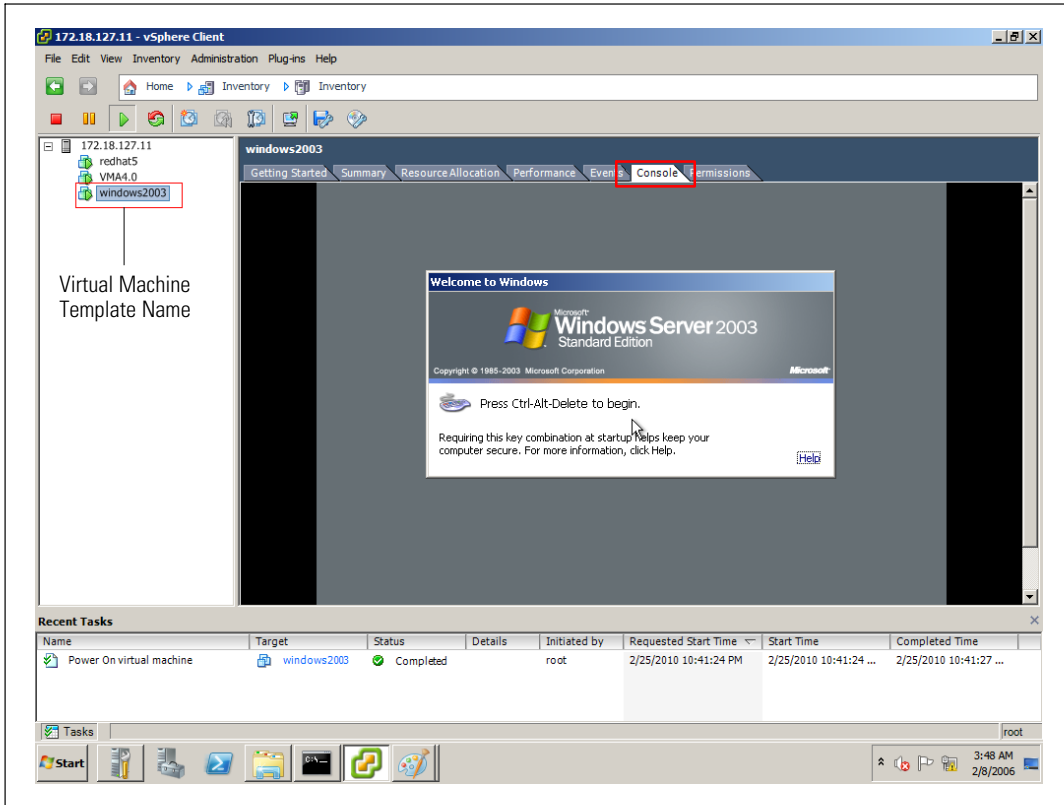

Figure 117. Console Window
- 1 On the VM Templates page, select the virtual machine template name and then select the **Console** tab. The Console window opens (see Figure 117).